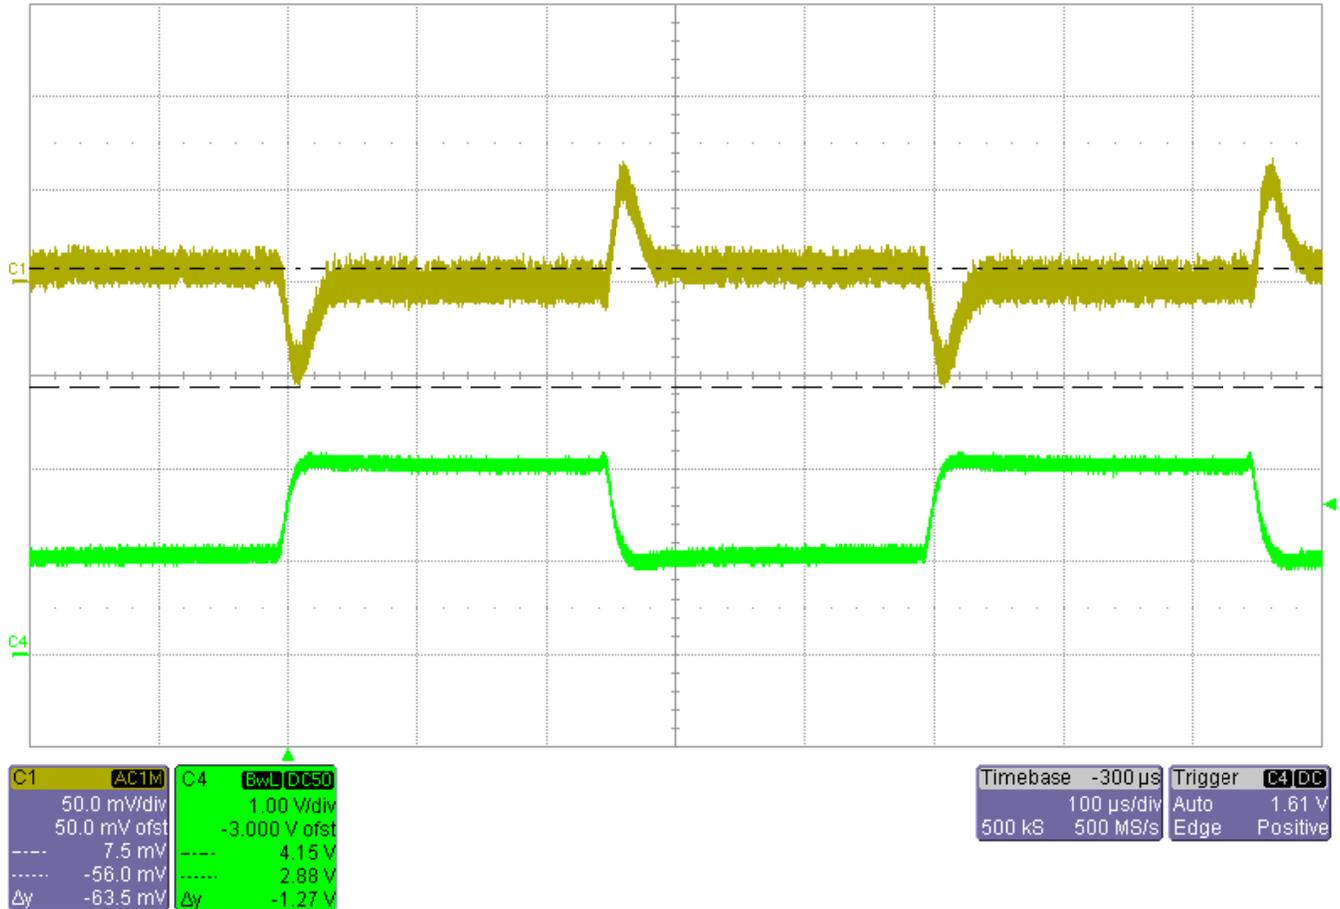
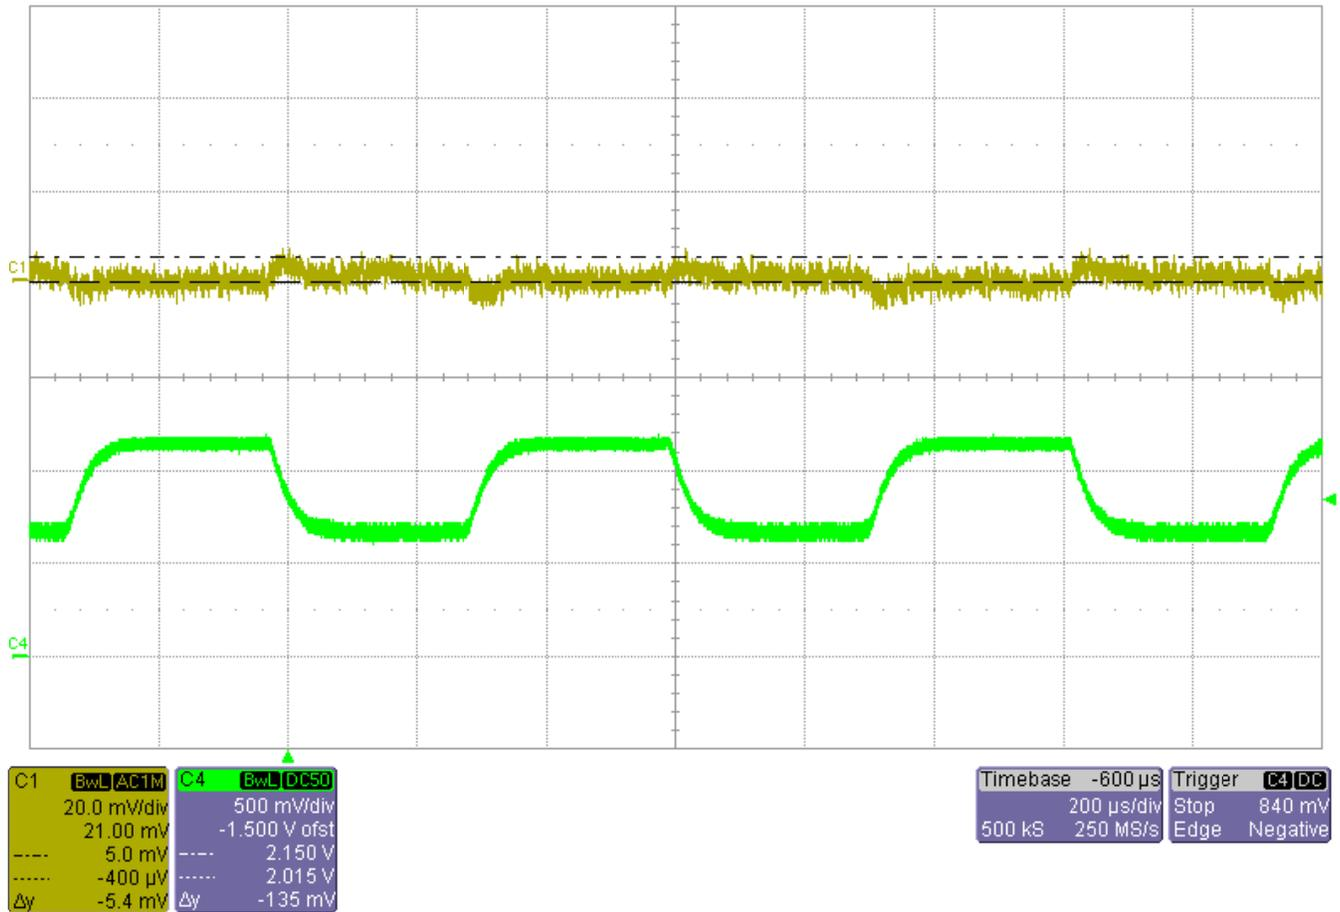

Figure 17: Load Step Response of 3V3_BUCK0 at Vin(typ) = 14 V
Figure 20: Load Step Response of 1V5_BUCK
Figure 17 through Figure 20 depicts the load transient response of all power rails:
- Figure 17: Load Step Response of 3V3_BUCK0 at Vin(typ) = 14 V
- Figure 20: Load Step Response of 1V5_BUCK